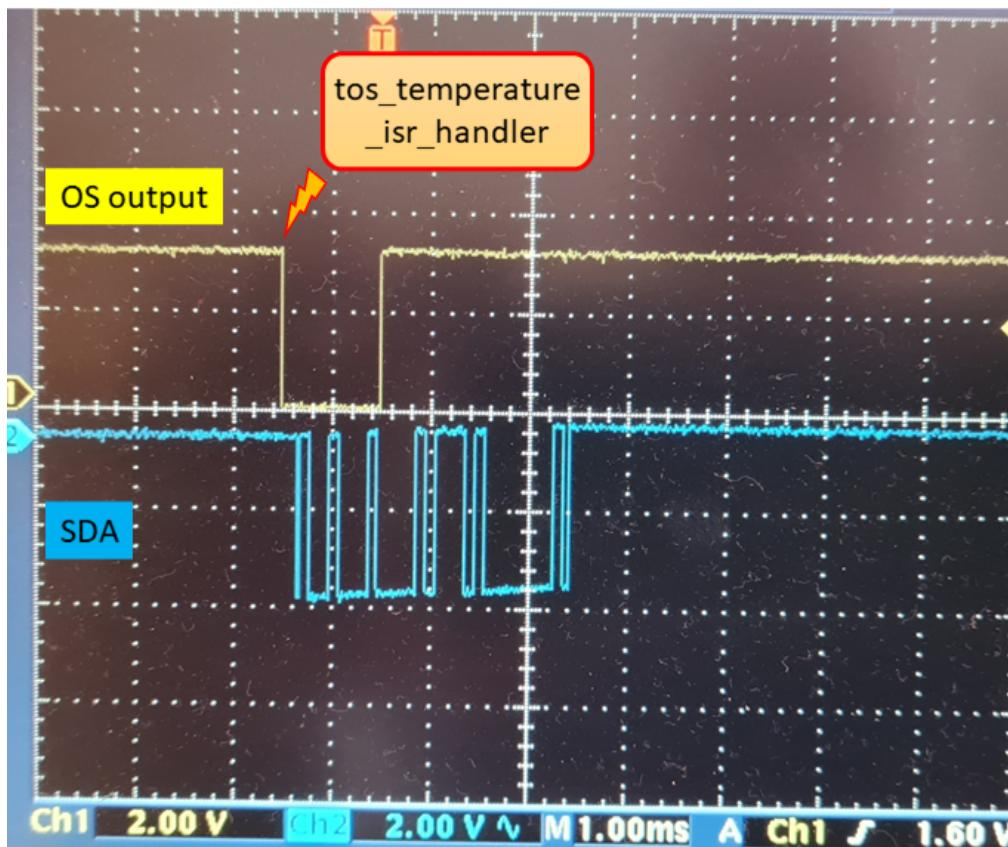

FIGURE 2.8 – Capture of the *SDA* and *OS* output.
5. Blow on the sensor to raise the temperature until the interrupt is triggered. You must have the capture shown in the figure 2.8. Explain the behavior.